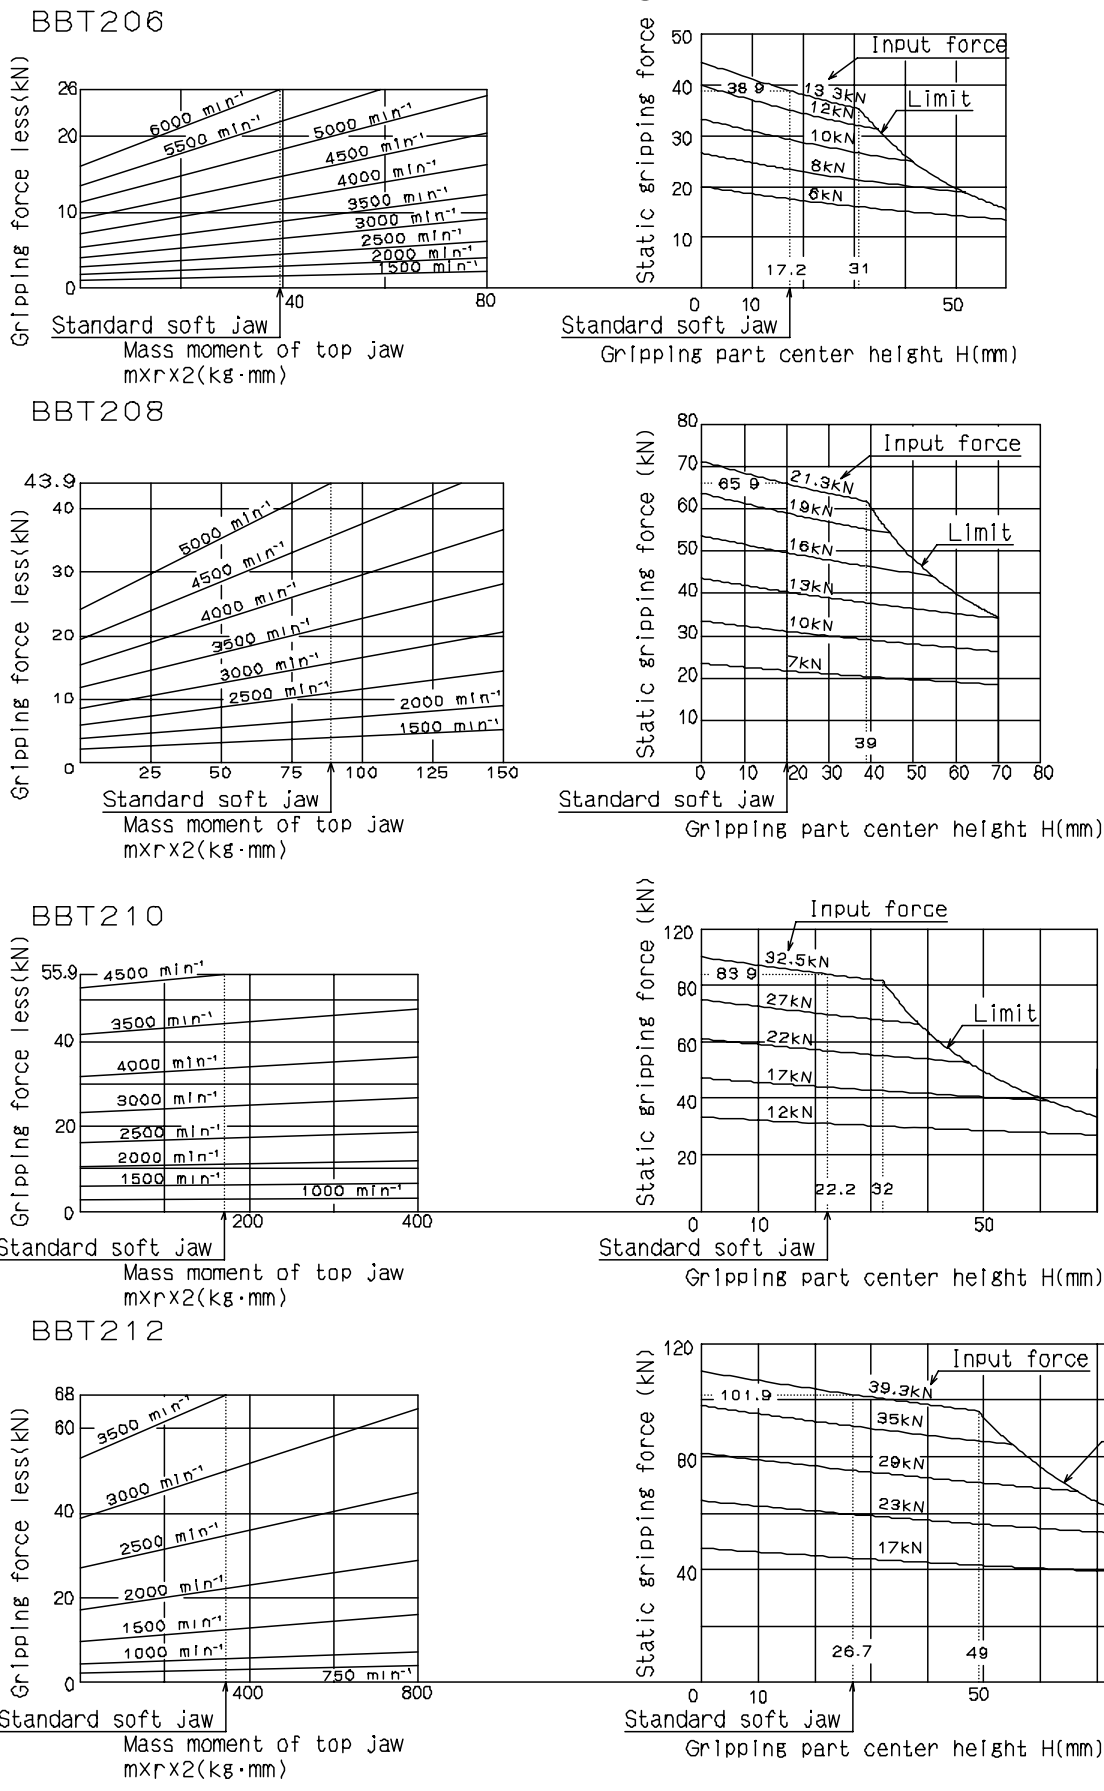

Fig.8
- **Keep the height of the top jaw within the range of the gripping force limit table. (Refer to Fig.8)**
Analysis of the gripping force, input force and rotation speed using Fig. 8 is carried out as shown below.
The required static gripping force and input force required at the rotation speed in use are predicted from Fig.8, however, it contains a number of hypothetical conditions. Therefore, it is necessary to only use these as reference, and the processing conditions must be determined after trial cutting without fail.